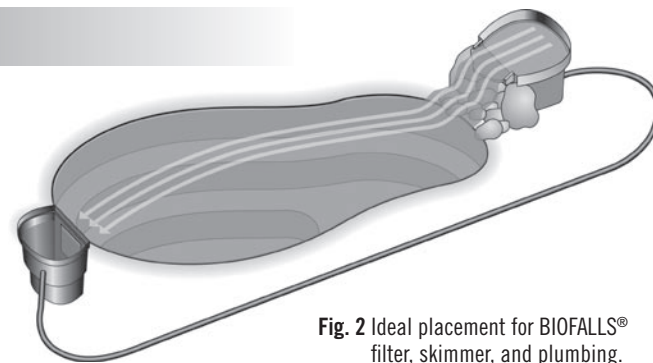

Fig. 2 Ideal placement for BIOFALLS® filter, skimmer, and plumbing.
- In order to maximize circulation, the BIOFALLS® filter and Skimmer are ideally placed on opposite ends of the pond, directly across from each other. (See fig. 2)